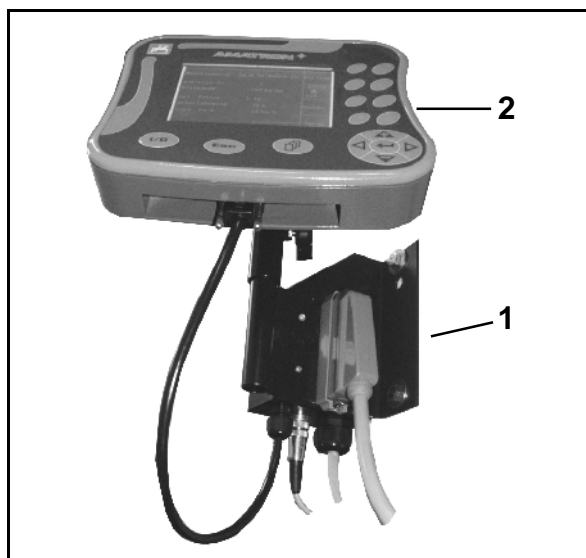

Fig. 171
- When fitting the tractor basic equipment (Fig. 171/1) ensure that the distance from any radio transmitter or antenna should be at least 1 m.
1. Fit the tractor basic equipment (Fig. 171/1) (console with distributor) in such a way that it is vibration free and earthed electrically (scratch off paint on the fixing point) and within view and reach to the right hand side of the operator.
2. Push the carrier with the computer (Fig. 171/2) onto the tube of the console.